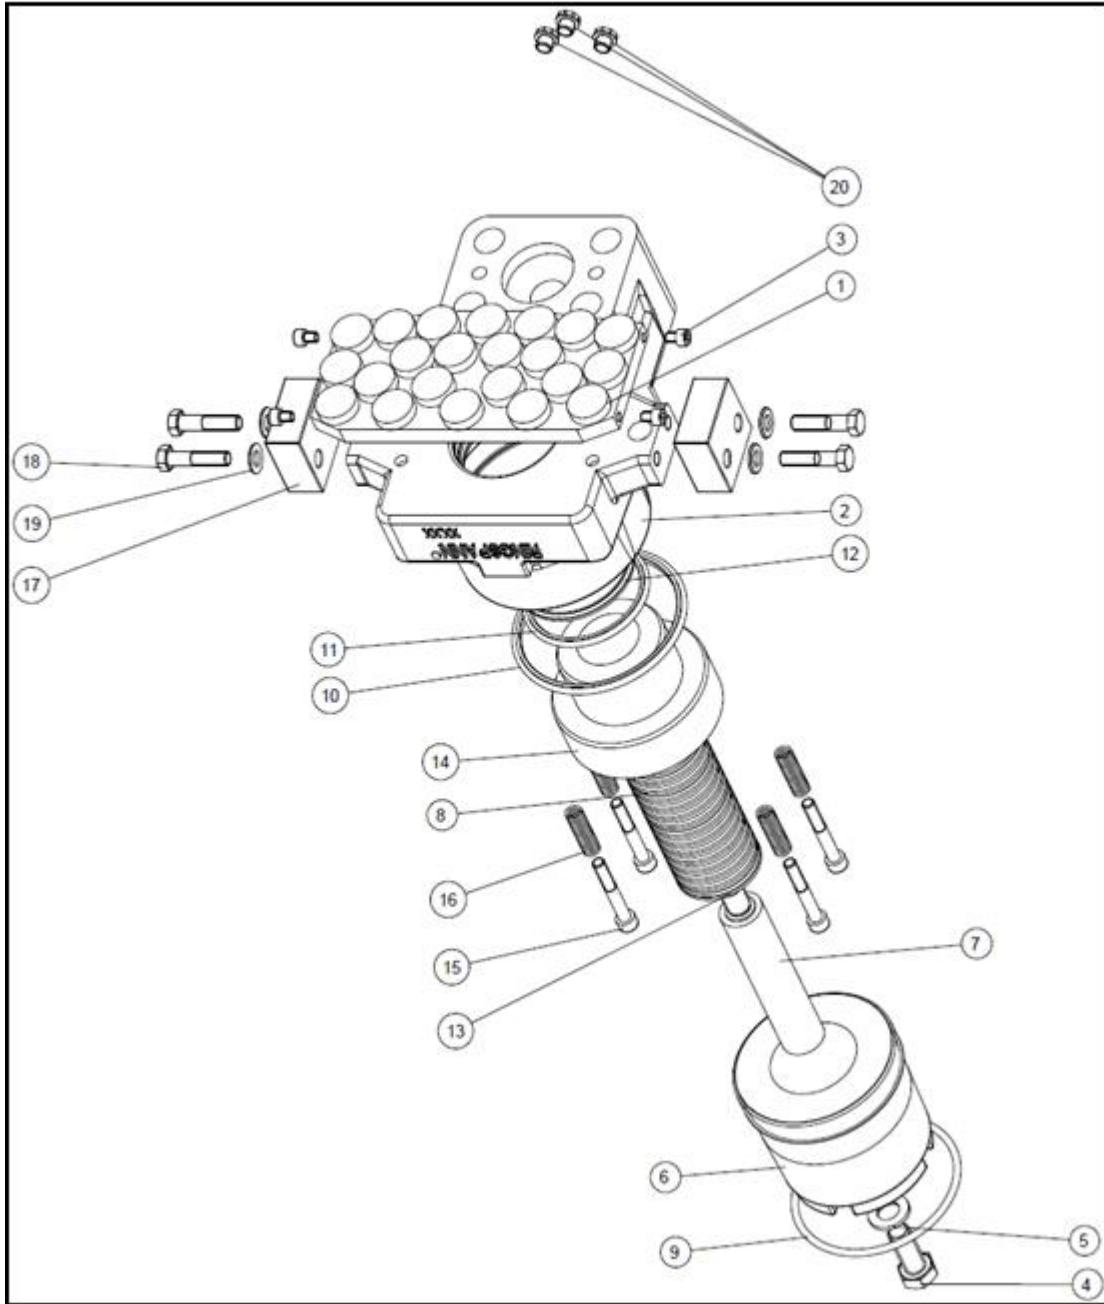

Fig. 2.2
The adjustment of the friction pads distance must be carried out during assembly and in case of wear of the friction pads. condition be approx. 1,5 mm on each side. The gap can be adjust over tuning the spring casting item 6 Fig. 2.2